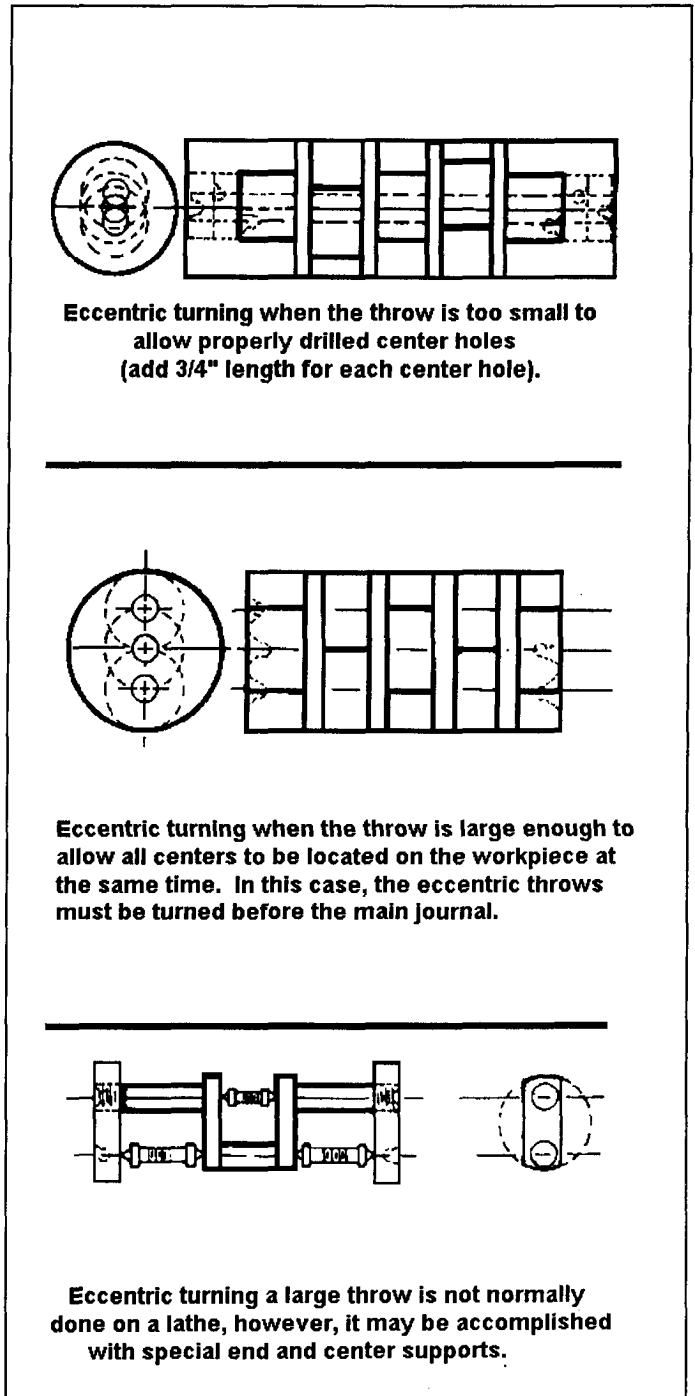

Figure 7-102. Eccentric turning.
- First determine the stock required by adding the throws plus 1/8 inch for machining (Figure 7-102).
the stock 3/4 inch oversized and just face both ends to clean up the saw cuts Lay out and center-drill the normal, center axis and turn down those diameters on the center axis with the work mounted between centers. Remove the work and remount into a chuck. Face both ends to the required length and center-drill the offset centers. Remount the work between these centers and machine the eccentric diameters to size. For eccentric work that has a limited distance between each center, this method is safer than trying to use a very shallow center-drilled hole to hold the work between centers (Figure 7-102).